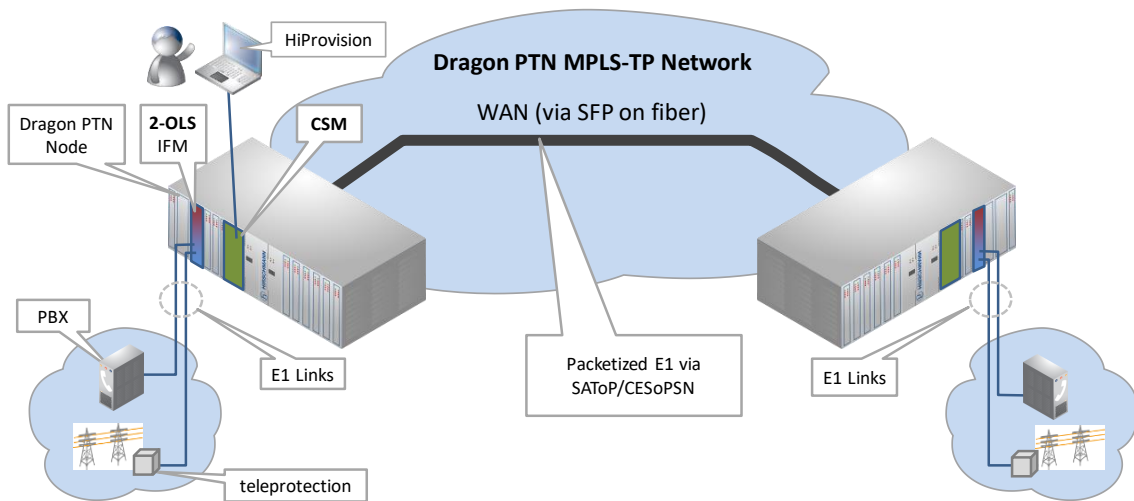

Figure 3 Circuit Emulation: Transport E1 Data via Dragon PTN
- ▶ Circuit Emulation E1 Data (Figure 3): The IFM uses backplane access and transports the received E1 data over the Dragon PTN network to a destination E1 port. The E1 port could be any E1 port from any type of IFM, see §4. Service in HiProvision = 'Circuit Emulation - E1';